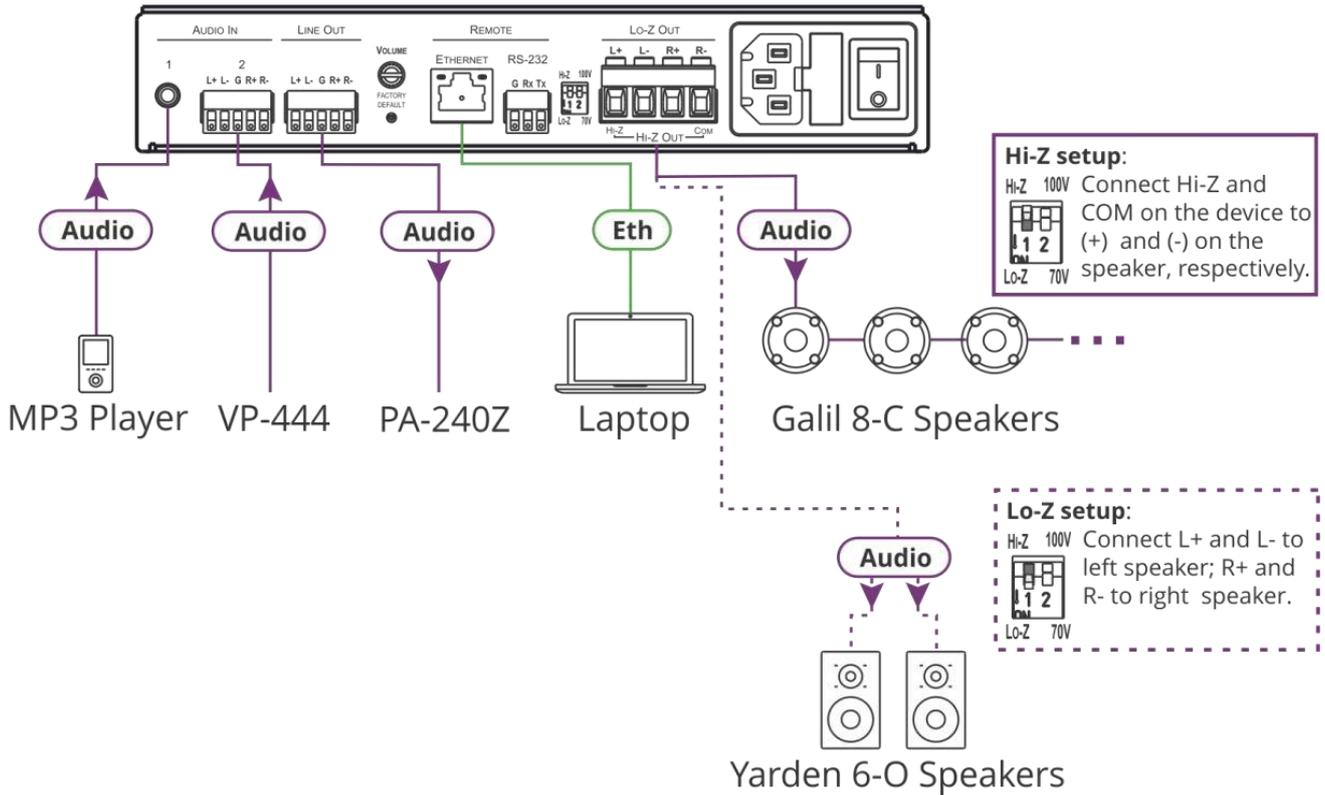

Figure 4: Connecting to the PA-240Z Rear Panel
To connect the **PA-240Z** as illustrated in the example in Figure 4:
6. Connect the power cord (not shown in Figure 4).